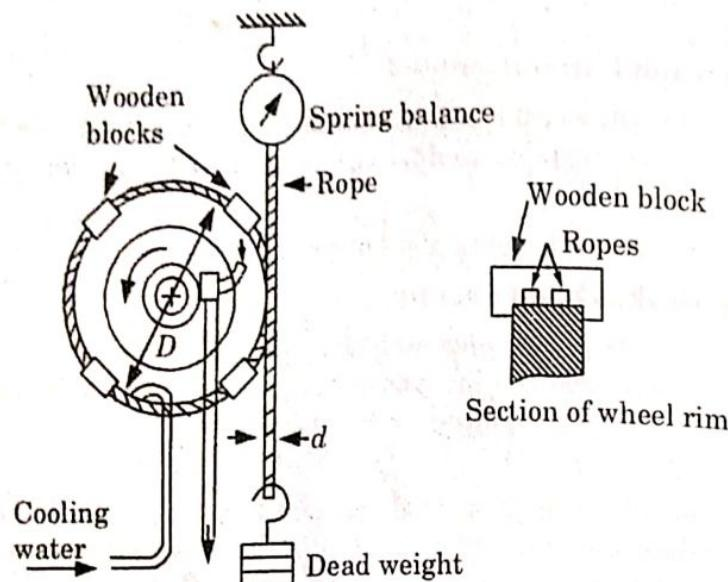

Fig. 5.17.2. Rope brake dynamometer.
2. The upper end of the ropes is attached to a spring balance while the lower end of the ropes is kept in position by applying a dead weight as shown in Fig. 5.17.2.